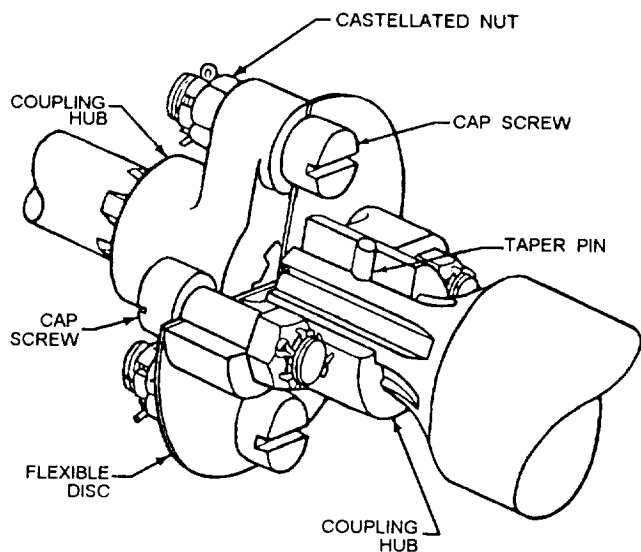

Figure 11-18.-Flexible coupling.
2. The flexible coupling (fig. 11-18), which connects two shafts by a metal disk. Two coupling hubs,